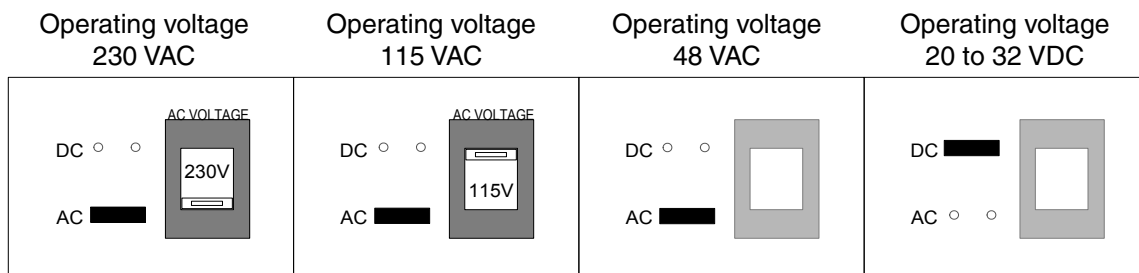

Fig. 2–4 Jumper and switch configuration
2. In case of an AC supply position the switch on (see figure 2–4) :